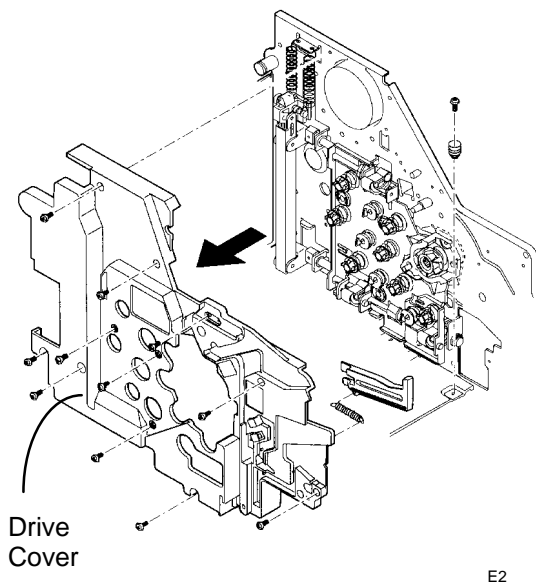

Figure 1. Removing the Drive Cover
3. (Figure 1): Remove the Drive Cover.